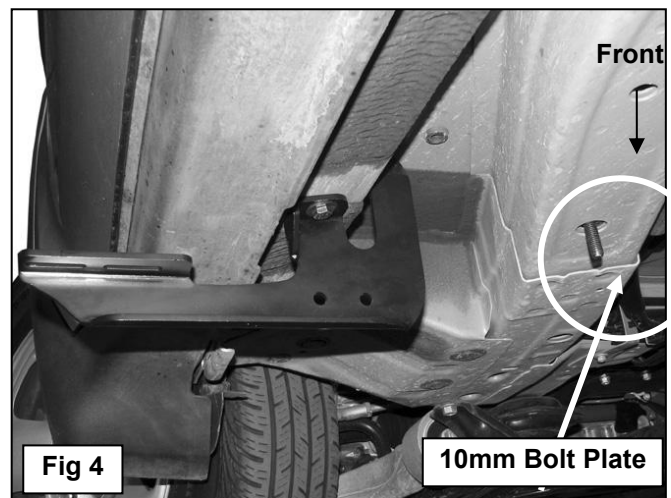

Fig 4
- Select (1) 10mm Bolt Plate, **(Figures 3)**. Insert the Bolt Plate into the factory hole in the bottom of the frame channel, **(Figures 4)**. Rotate the Bolt Plate clock-wise 90- degrees or until it stops turning. **NOTE:** To help determine the correct inner mounting hole on the frame to use, hold the Support Bracket up to the back of the Front Bracket with the inner end lined up with the hole in the bottom of the frame channel. **(Figures 5)**